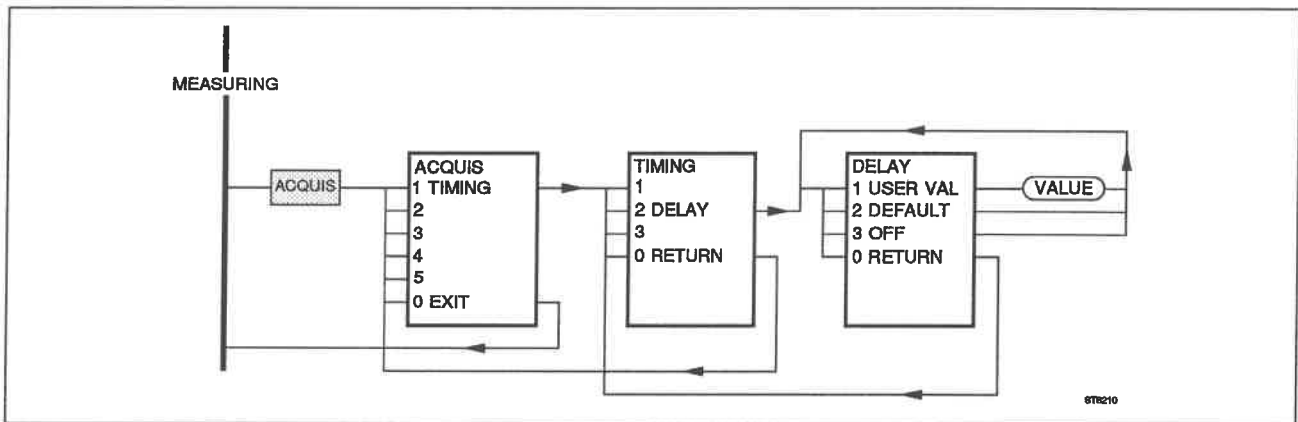

Fig. 4.27 Trigger delay menu.
- press **ACQUIS** to invoke the ACQUIS menu (Fig. 4.27).